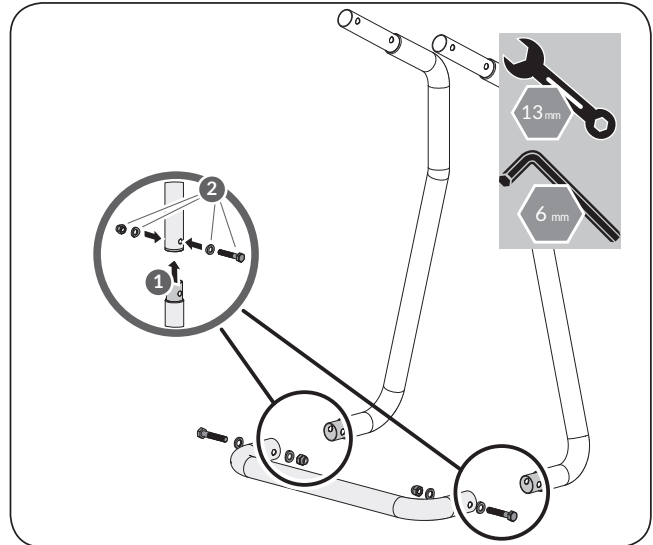

Figure 3
3. Insert the bottom ends of the front support legs into the front U-shaped connecting pipe and line up the holes. Insert M8X45 bolts each with an arc washer through the outside holes, then secure with arc washers and nuts. (See **Figure 3**)